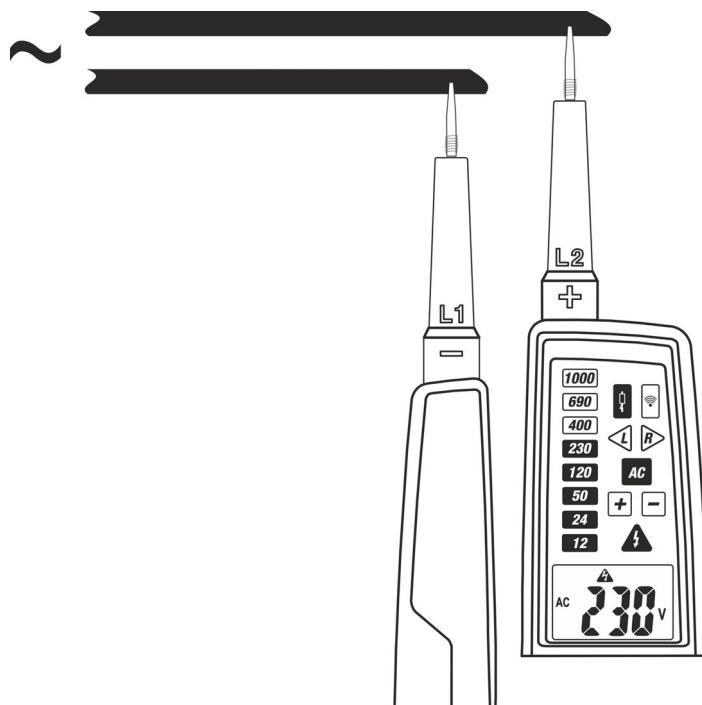

Fig. 6: AC Voltage measurement with low impedance value
2. Connect the **L1** and **L2** probes to the object under test (see Fig. 6). The measurement is performed **only with contact of probes directly on metal parts of conductors**